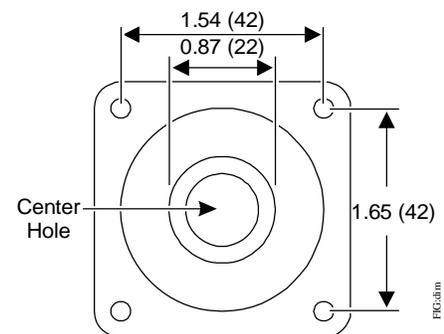

Figure 1: Mounting Holes on the Flange Dimensions in. (mm)
- Using the mounting flange as a template centered on the hole, drill four 1/8 in. (3.18 mm) holes for the mounting screws positioned as in Figure 1.